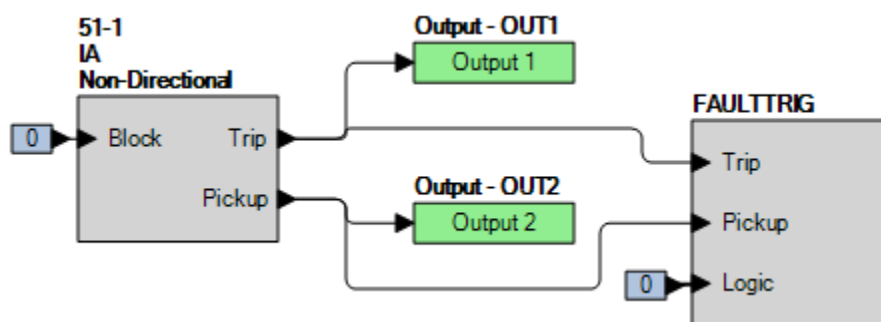

Figure 74-1. BESTlogicPlus Settings (Phase Mode)
Step 2: Use BESTCOMSPPlus to configure the BESTlogicPlus programmable logic shown in Figure 74-1.
- Step 4: Prepare to monitor the 51-1 function operation. Operation can be verified by monitoring OUT2 (see Figure 74-1).